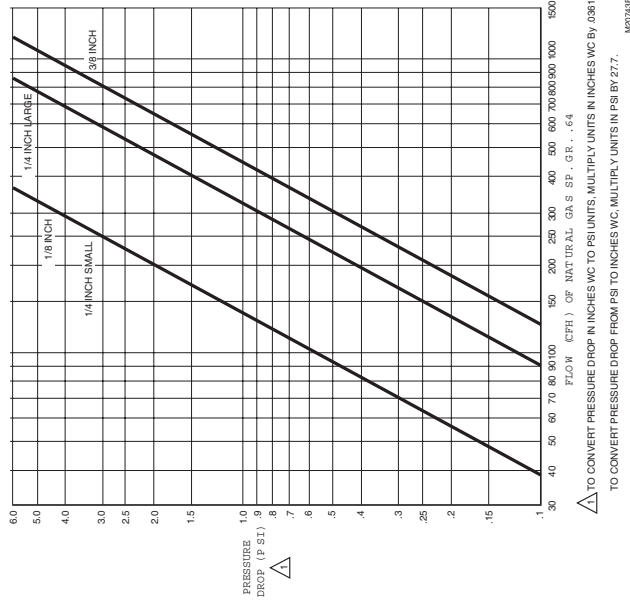

Fig. 1. Pressure drop (psi) vs. flow capacity (cfh) on V4046C, V8046C gas valves only.
5. Use the corrected burner capacity in cfh when determining the gas valve size in Fig. 1.
7. Plot the capacity (cfh) vs. pressure drop (psi) in Fig. 1 to find the proper valve size.